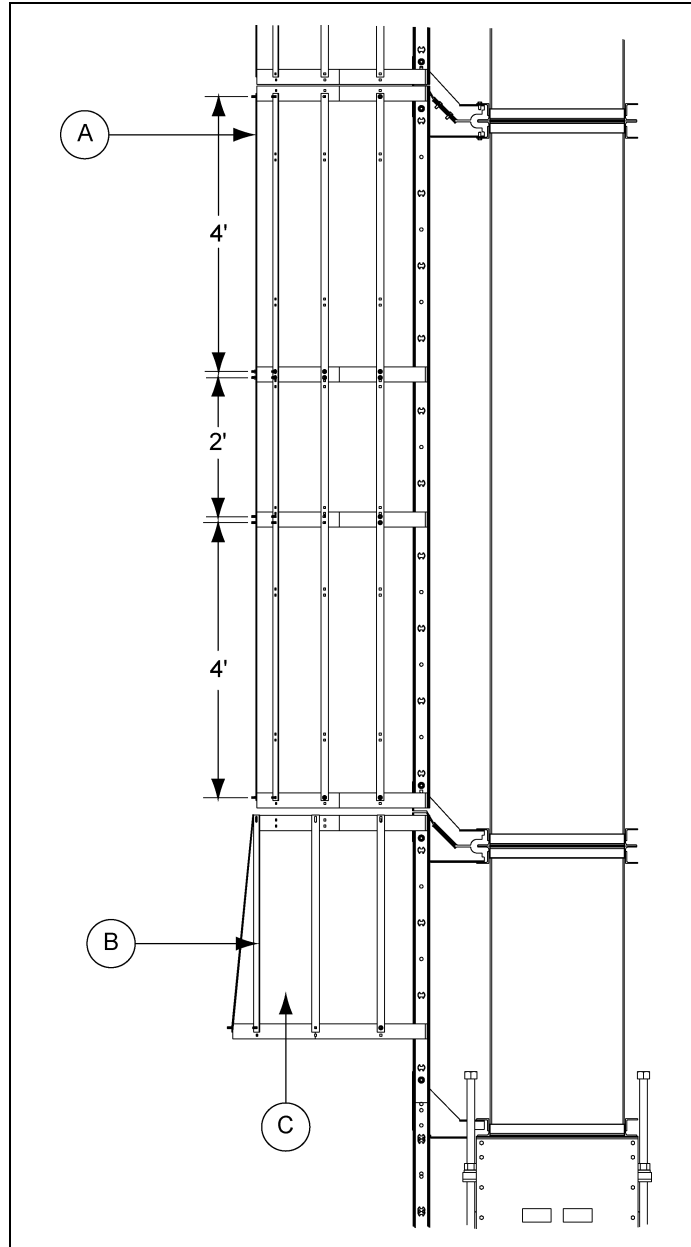

Figure 6S 10' Safety Cage Section
1. Locate safety cage hoops (LDR-BCKTBHP) along the ladder rails where the safety cage hoops will be installed. **NOTE:** The end hoops of a 10' section are spaced 4' from the two (2) middle hoops, which are spaced 2' apart. See Figure 6S for spacing. (See Figure 6S.)